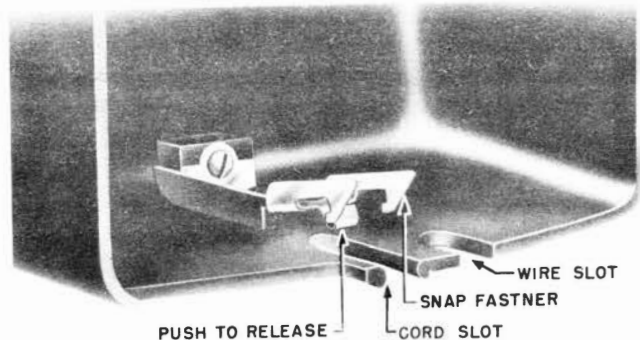
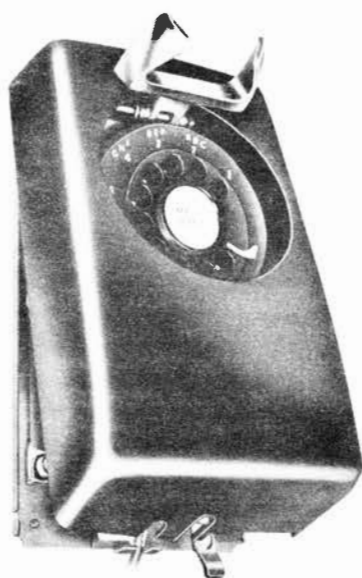

Fig. 22 - 554- or 556-type Set, Cover Interior
Fig. 24 — 554- or 556-type Set, Replacement of Housing
4.02 To remove housing on 554- and 556-type telephone sets, push inward on tab of snap fastener located in cord slot and, while tab is depressed, lift lower part of housing outward, releasing fastener catch (see Fig. 22 and 23). To replace, slip housing over switchhook and dial, then press firmly on lower part of housing to engage snap fastener and catch (see Fig. 24).